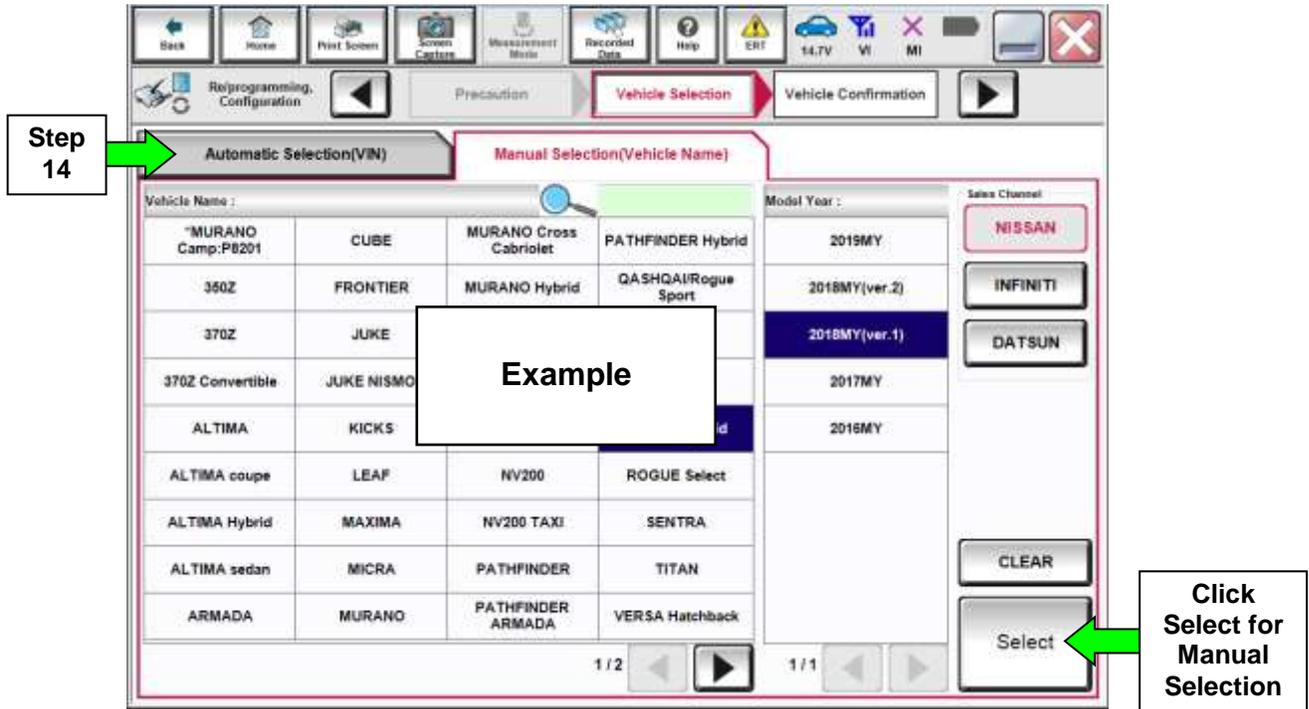

Figure 5
- If the screen in Figure 5 does not display, skip to step 15.